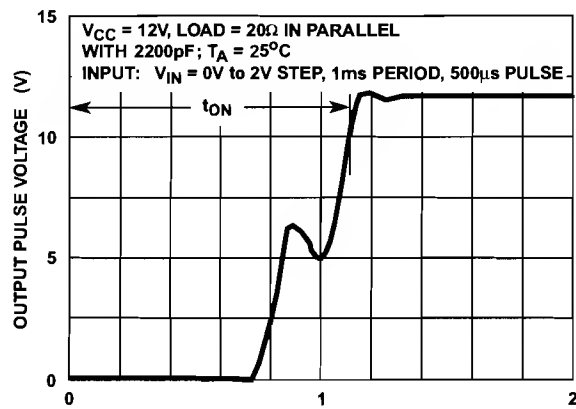

FIGURE 3A. OUTPUT TURN-ON TIME (µs)
5. Refer to Figures 3A and 3B for typical switching speeds with a 20Ω Load.